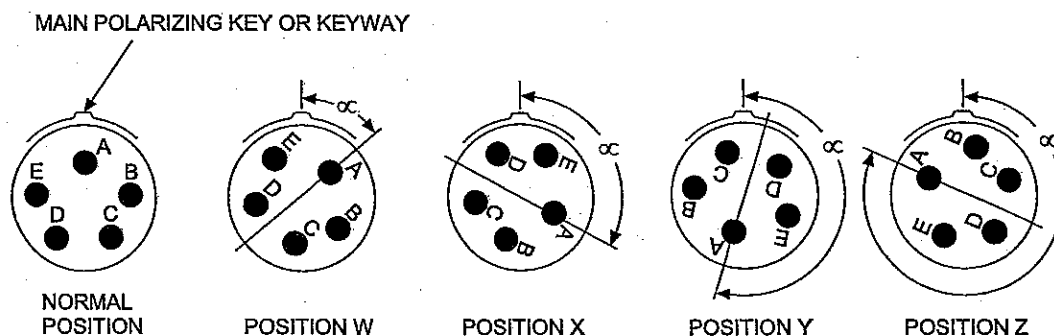

Fig 2 Insert orientations
5.1 In the orientations shown in Fig 2, the pin-type insert is rotated clockwise relative to the main polarizing key or keyway, whilst the mating socket-type insert is rotated counter-clockwise the same number of degrees relative to the main polarizing key or keyway.